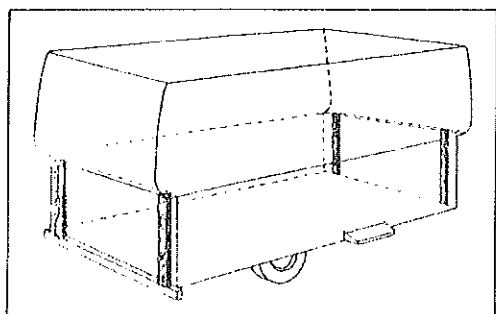

Figure 4
- A. Lower the top section onto 2" x 4" boards. Refer to Fig. 4